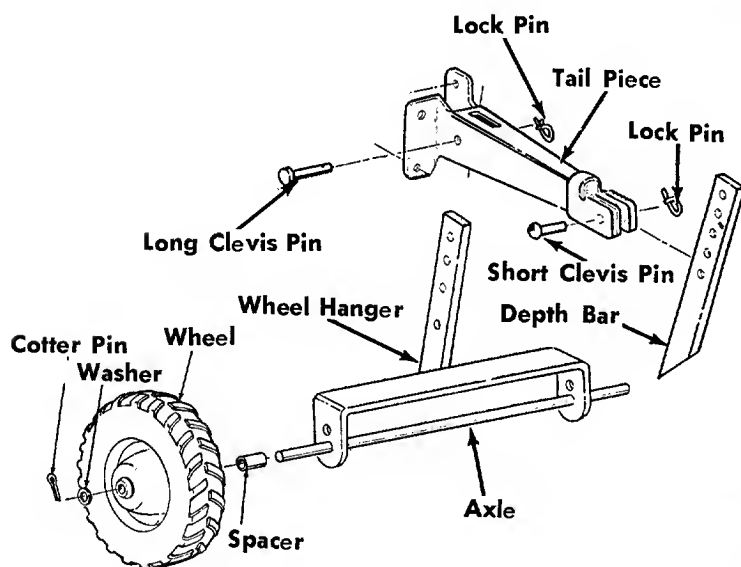

FIGURE 1. WHEEL AND DEPTH BAR ASSEMBLY
Assemble the axle to the wheel hanger. Place the spacer over the axle and assemble the wheel, with a washer on both sides of the wheel, to the axle. See figure 1. Secure each wheel with a cotter pin. Place the wheel hanger inside the tailpiece and secure with the long clevis pin and lock pin. See figure 1.
Assemble the depth bar to the tail piece using the short clevis pin and lock pin. See figure 1.
11. The wheel height can be adjusted by removing the long clevis pin for the wheel hanger and raising or lowering the setting. See figure 1.